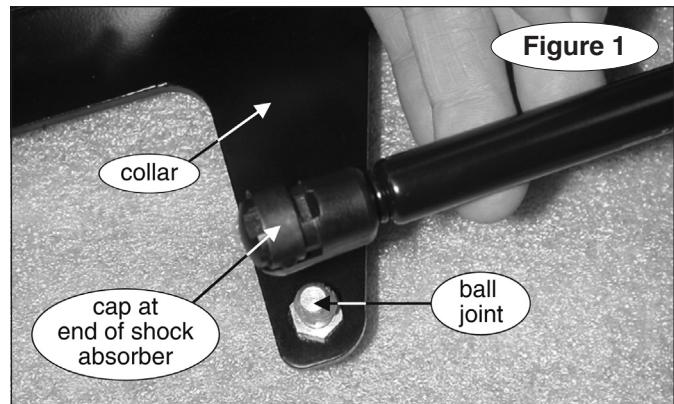

Figure 1
2. Connect one of the gas shock absorbers to the collar – pivot the end of one of the shock absorbers until the cap at the end of the shock absorber (Figure 1) is over the ball joint (Figure 1) on that side. Press the cap down onto the ball joint, until it ‘snaps’ in place over the ball joint. Repeat to connect the other shock absorber to the collar.